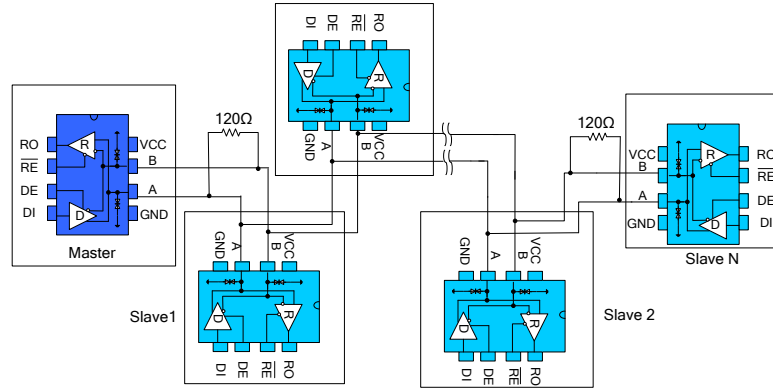

Figure 10 Hand in hand RS485 multiplex communication network
4.2 Hand in hand Networking, also known as daisy chain topology, is the standard and specification of RS485 bus wiring, and is the RS485 bus topology recommended by TIA and other organizations. The wiring mode is that the main control equipment and a plurality of slave control equipment form a hand in hand connection mode, as shown Figure 10 and the hand in hand mode is no branches. This wiring mode has the advantages of small signal reflection and high communication rates.